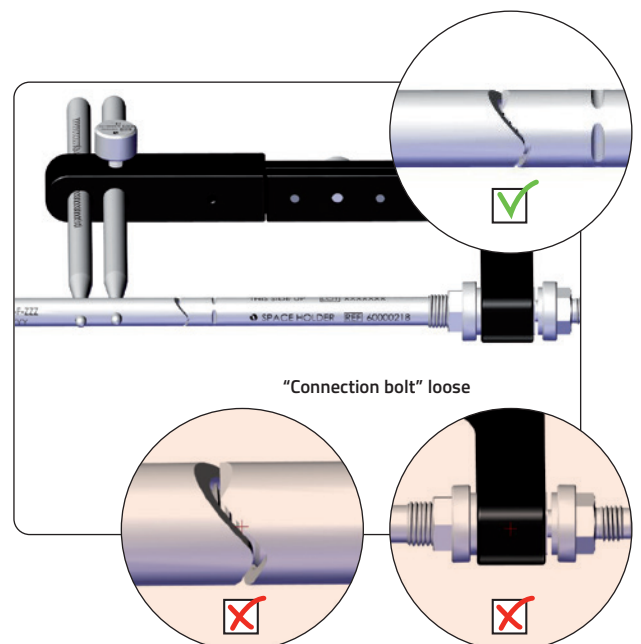

Fig. 38 Connection Bolt loose
4. The Fitbone is loosely fixed to the "connection bolt" (**Fig. 38**).